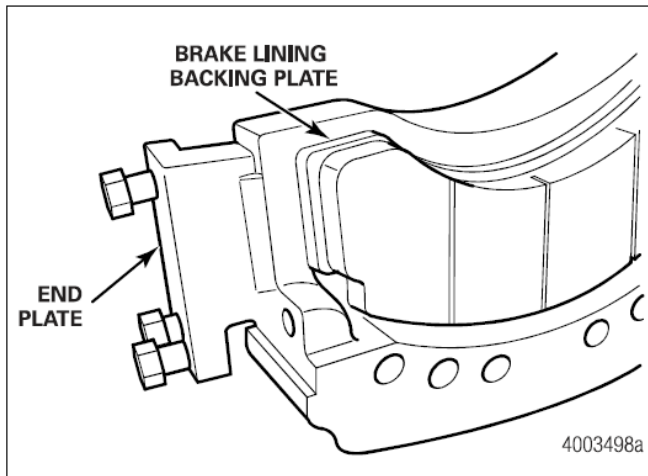

Figure 5.10
25. Install the end plates and end plate bolts into each caliper half. Figure 5.10. Tighten the bolts to 380-460 lb-ft (515-624 N-m)